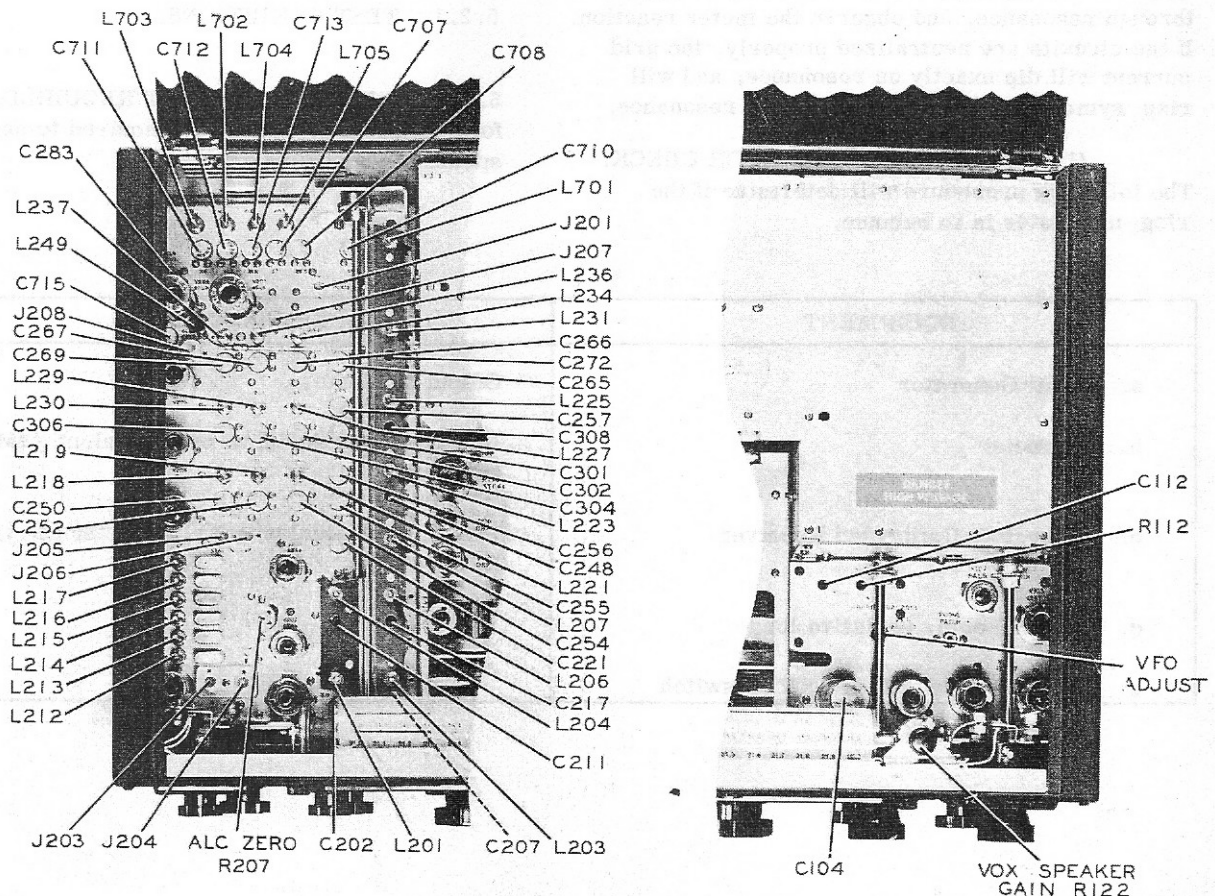

Figure 5-1. Exciter Test Jacks and Points of Tuned Circuit Adjustments
(c) The carrier will be heard if the modulator is not in balance. Adjust R112, and C112 (see figure 5-1) for minimum sound of the carrier.
(Refer to figure 5-1)
- b. Connect the antenna of a communications receiver to J203. (See figure 5-1.)